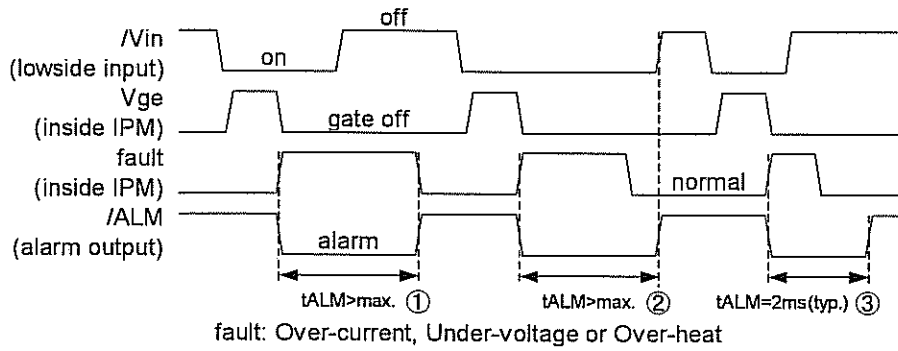

Figure2. Input/Output Timing Diagram.
Necessary conditions for alarm reset (refer to ① to ③ in figure2.)
- ① This represents the case when a failure-causing Fault lasts for a period more than  $t_{ALM}$ . The alarm resets when the input  $V_{in}$  is OFF and the Fault has disappeared.
- ② This represents the case when the ON condition of the input  $V_{in}$  lasts for a period more than  $t_{ALM}$ . The alarm resets when the  $V_{in}$  turns OFF under no Fault conditions.
- ③ This represents the case when the Fault disappears and the  $V_{in}$  turns OFF within  $t_{ALM}$ . The alarm resets after lasting for a period of the specified time  $t_{ALM}$ .